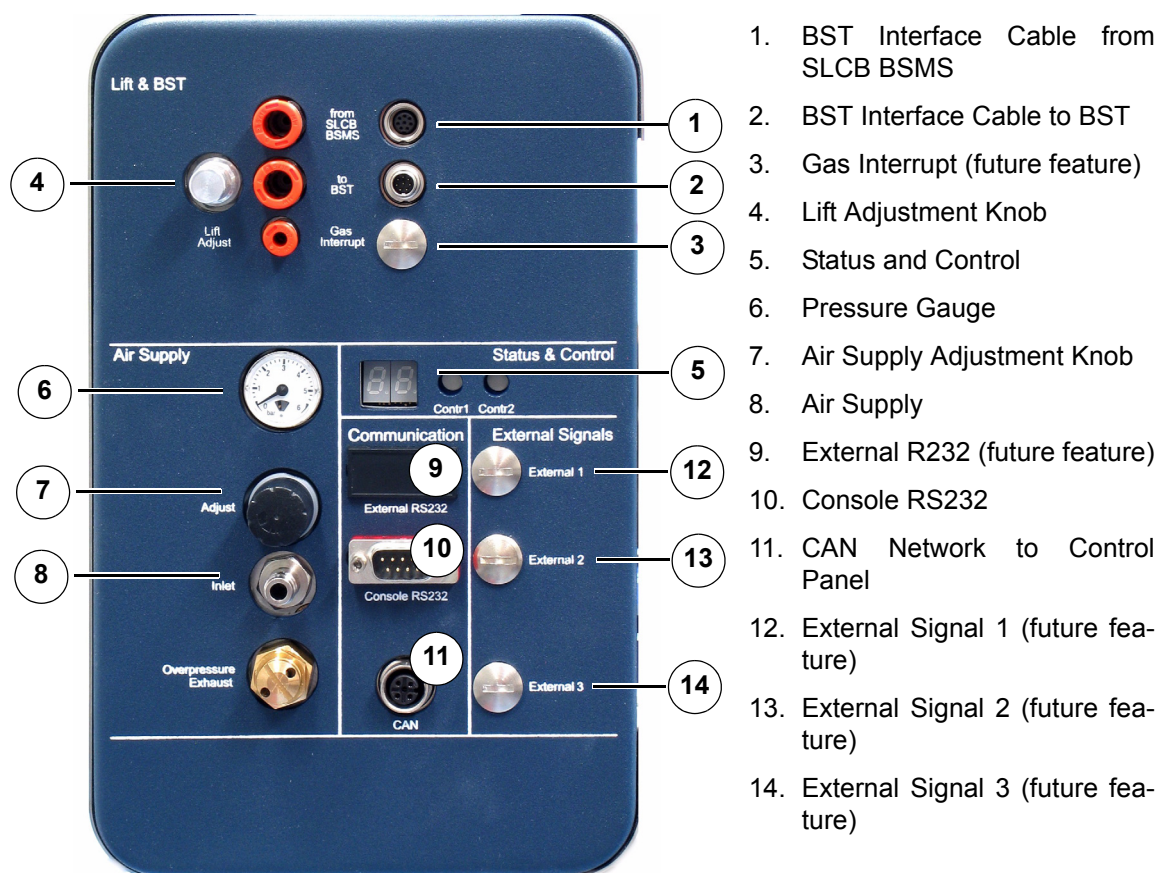

Figure 10.1 Connections Left Side
1. Check the pressure gauge (Figure 10.1/6).
2. If the pressure is below 4 bar, turn the adjustment (Figure 10.1/5) clockwise until the pressure gauge displays 4 bar.